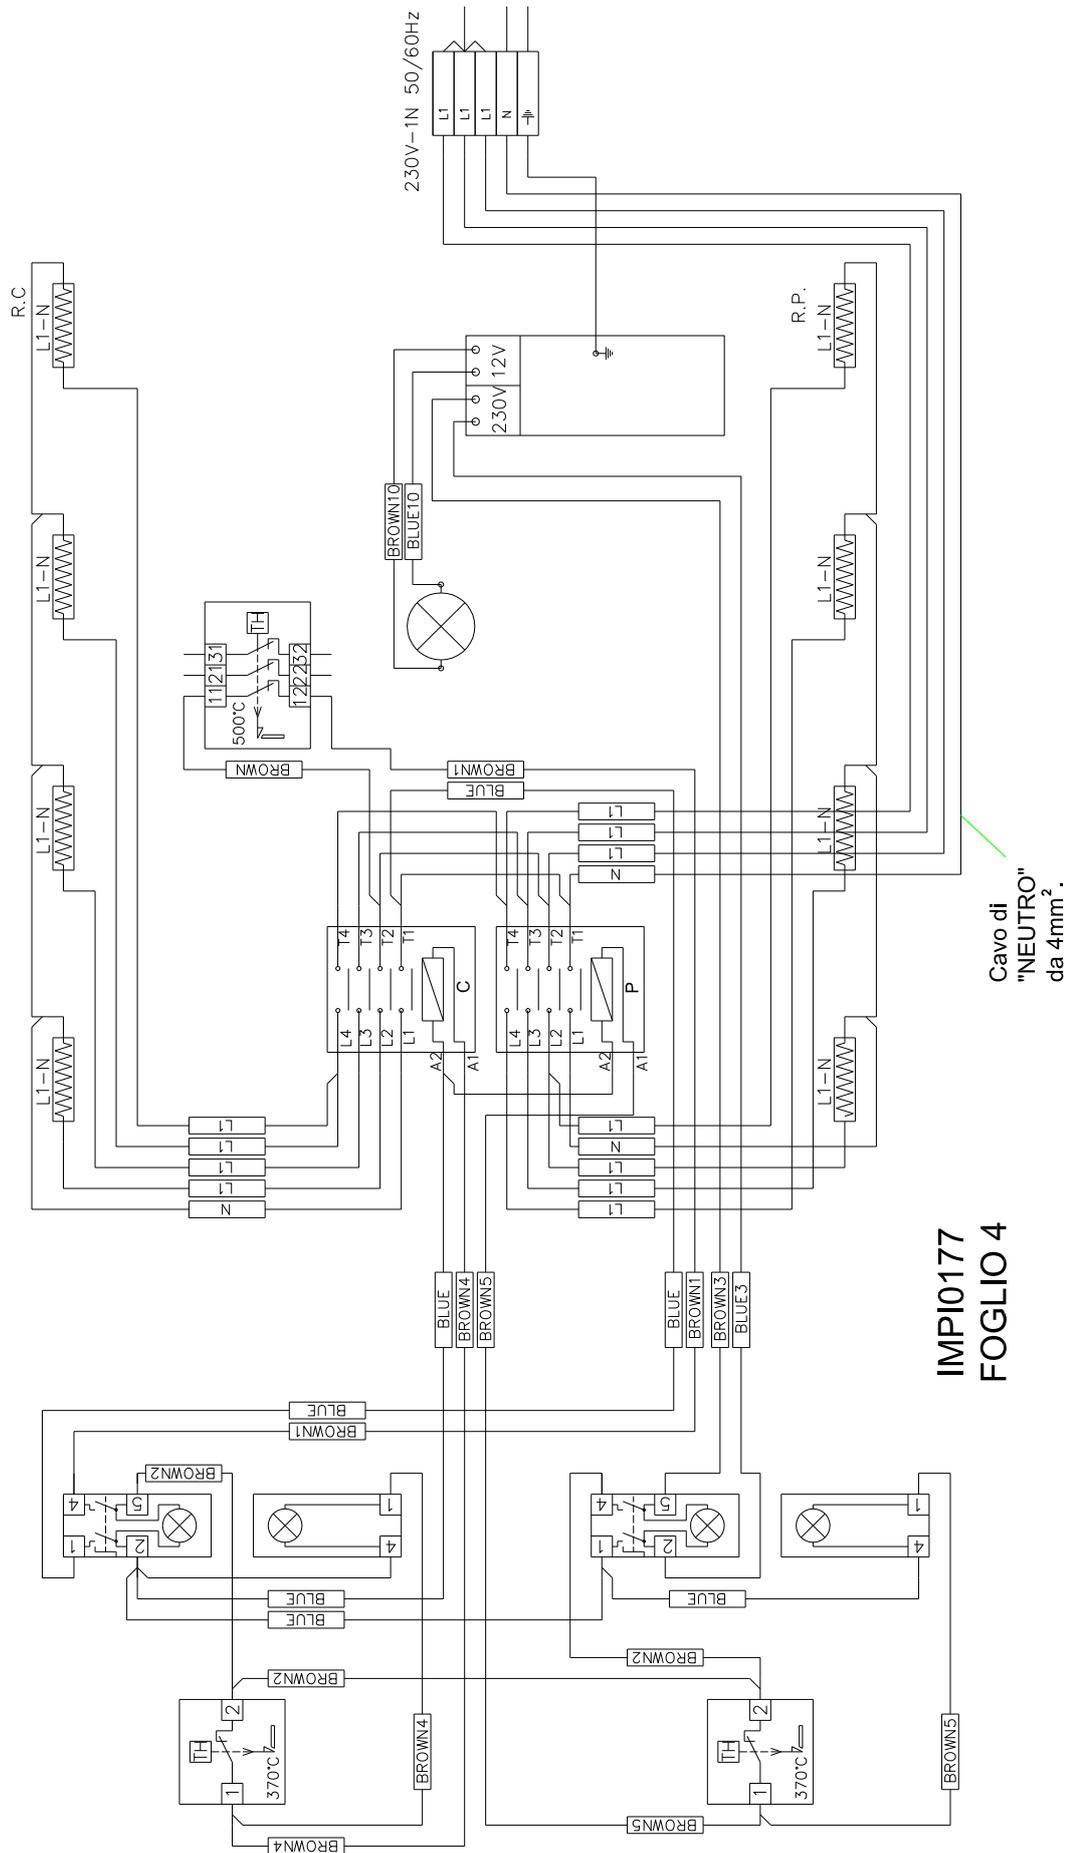

Fig. 8.3. Electrical diagram Citizen EP70 single chamber, at 230 Vac. 1-N version.
N.B. For double chamber ovens CITIZEN EP 70 version 230Vac 1-N, see paragraph 8.3 and Electrical diagram Fig.8.3.